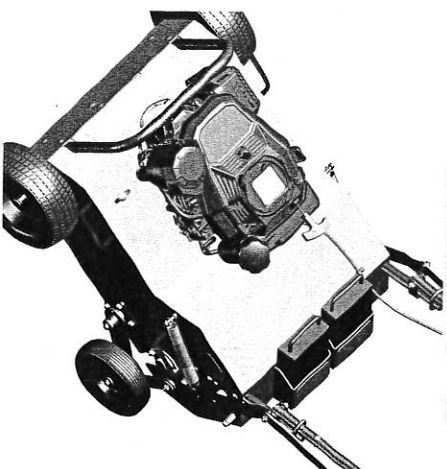

Figure 5
- Utilize the four lifting handles as shown in figure 5.